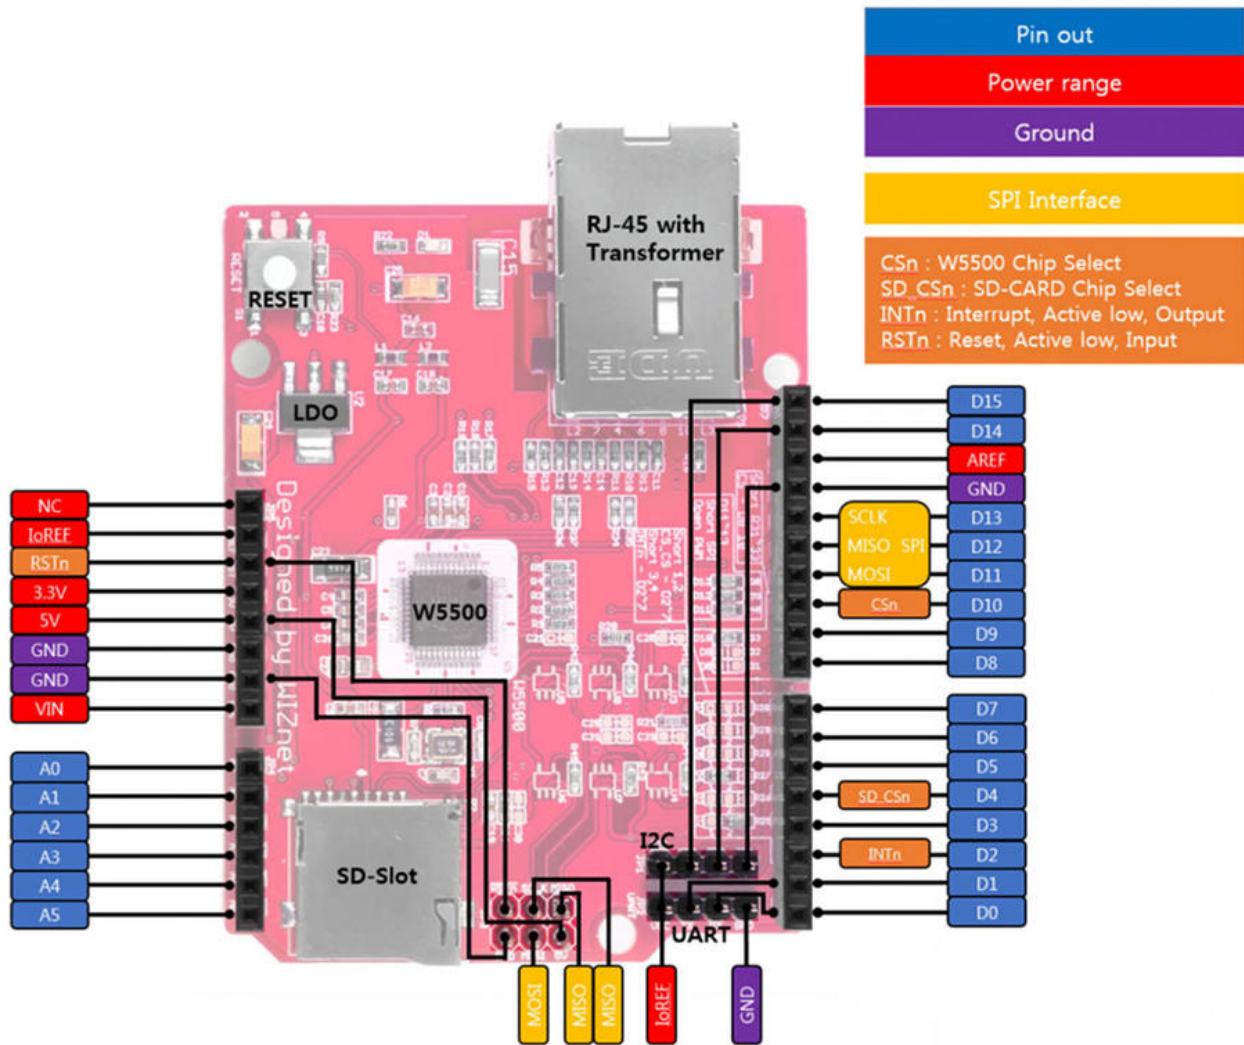

Figure 5: The pinout of the W5500 shield
As said before, the W5500 mates seamlessly with all sixteen Nucleo boards. The **Figure 5¹⁷** shows the shield pinout. The SPI interface is routed to D13, D12 and D11 pins, and they correspond to the same pins of the SPI1 peripheral (apart for the Nucleo-F302R8 board where those pins correspond to SPI2 peripheral). The *Slave Select* (SS) pin for the W5500 pin corresponds to the Arduino D10 pin, while the SS pin for the SD card corresponds to the Arduino D4 pin.
Looking to **Figure 5**, you can see that the D2 pin plays an important role. The W5500 IC is designed to optionally assert low the INTn pin when several events related to the network interface (e.g. IP collision, etc.) or to the single socket (e.g. connection established, data received, etc.) happen. This feature allows to configure the corresponding MCU pin as `GPIO_MODE_IT_FALLING`, so that the corresponding IRQ fires when the IC asserts low the INTn pin. This allows to write down asynchronous applications, especially if you are using the `ioLibrary_Driver` in conjunction with an RTOS (for example, the ISR may use a semaphore to wake-up a sleeping thread that starts performing operation with a socket).